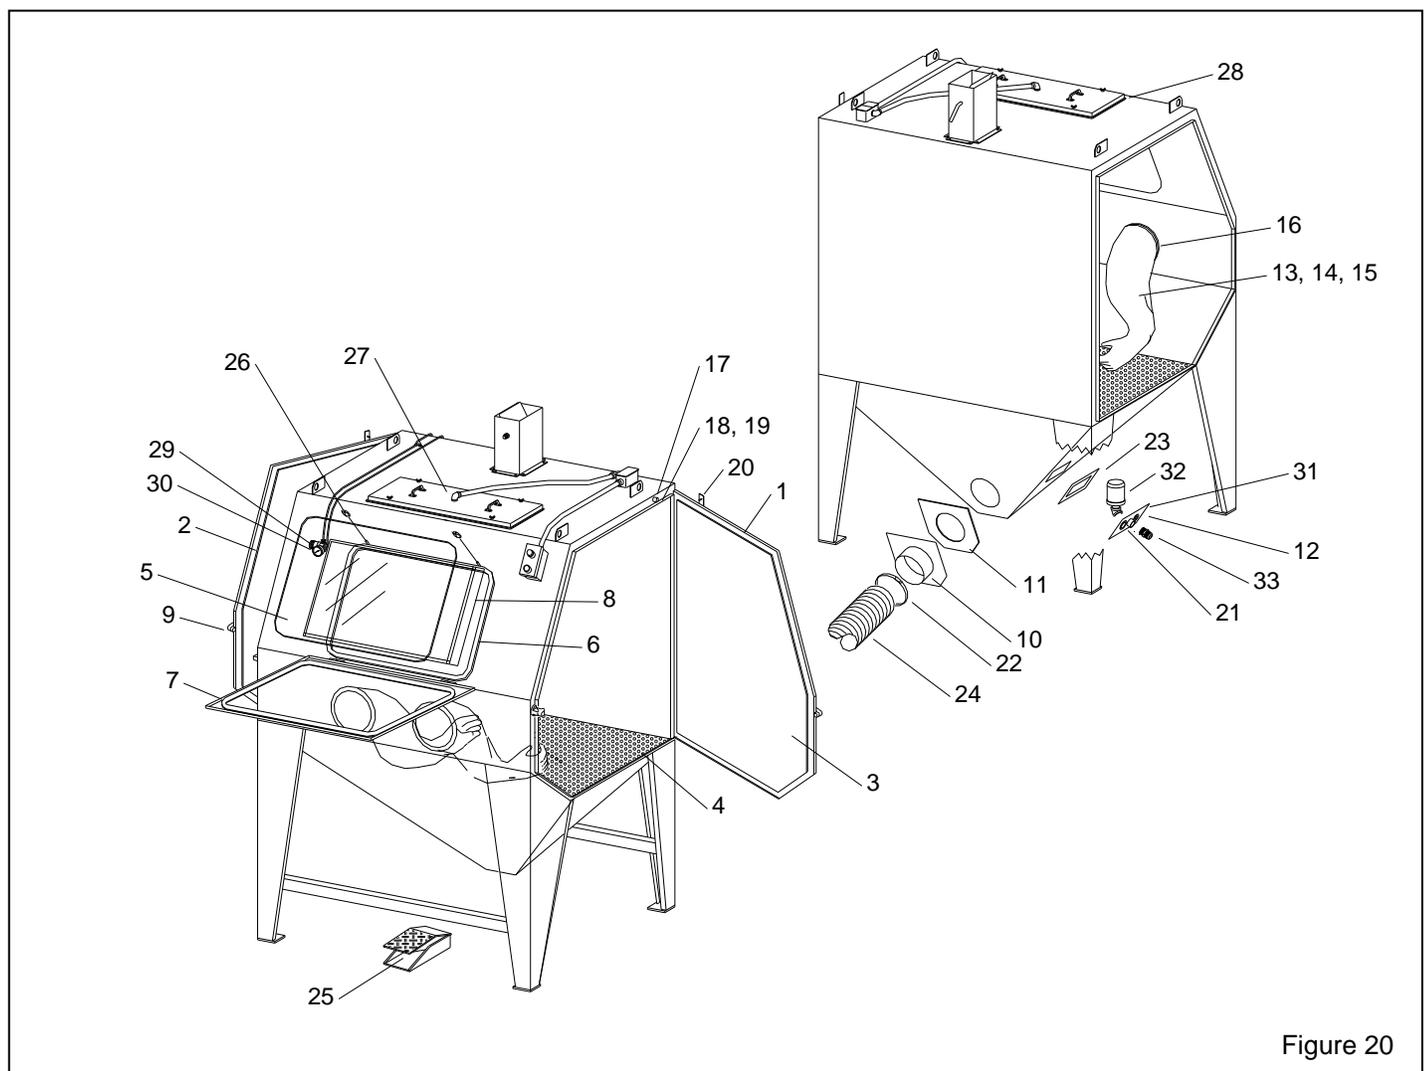

Figure 20
9.5 Cabinet Assembly, Figure 20